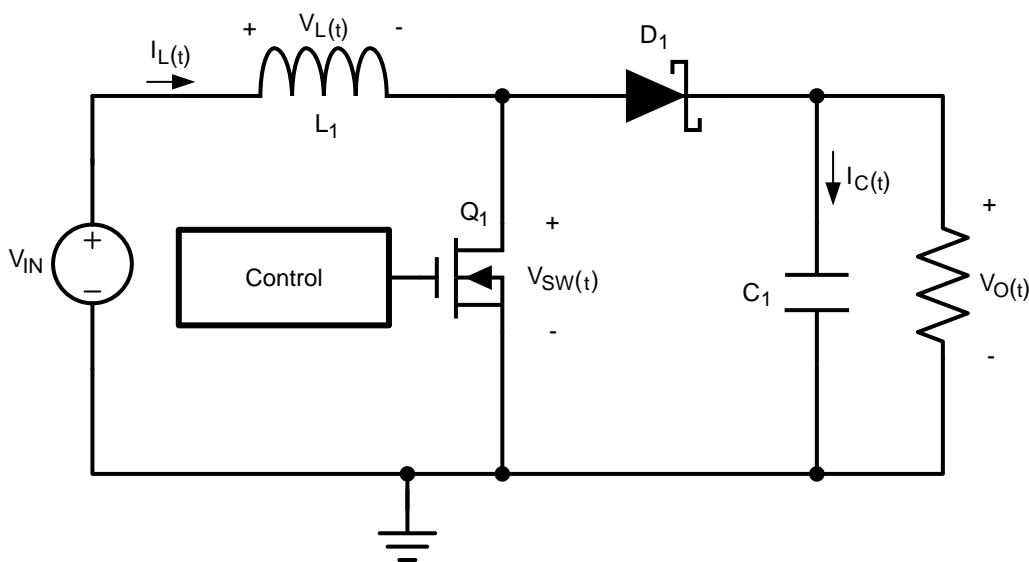
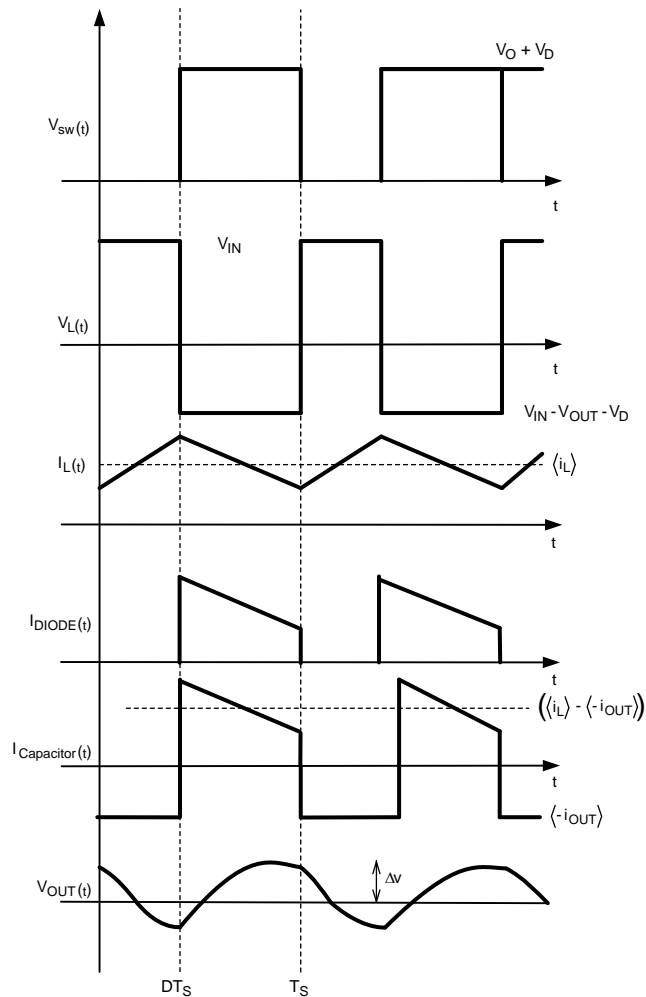

Figure 13. Simplified Schematic
Figure 14. Typical Waveforms
The following operating description of the LMR62421 will refer to the Simplified Block Diagram (Figure 12) the simplified schematic (Figure 13), and its associated waveforms (Figure 14). The LMR62421 supplies a regulated output voltage by switching the internal NMOS control switch at constant frequency and variable duty cycle. A switching cycle begins at the falling edge of the reset pulse generated by the internal oscillator. When this pulse goes low, the output control logic turns on the internal NMOS control switch. During this on-time, the SW pin voltage (V_{SW}) decreases to approximately GND, and the inductor current (I_L) increases with a linear slope. I_L is measured by the current sense amplifier, which generates an output proportional to the switch current. The sensed signal is summed with the regulator's corrective ramp and compared to the error amplifier's output, which is proportional to the difference between the feedback voltage and V_{REF} . When the PWM comparator output goes high, the output switch turns off until the next switching cycle begins. During the switch off-time, inductor current discharges through diode D1, which forces the SW pin to swing to the output voltage plus the forward voltage (V_D) of the diode. The regulator loop adjusts the duty cycle (D) to maintain a constant output voltage.